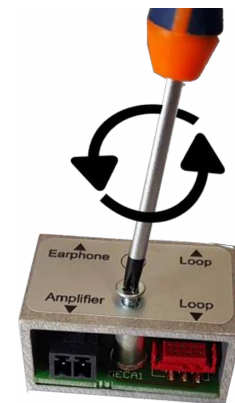

Figure 1
- Unscrew the support of the electronic card as shown on figure 1.